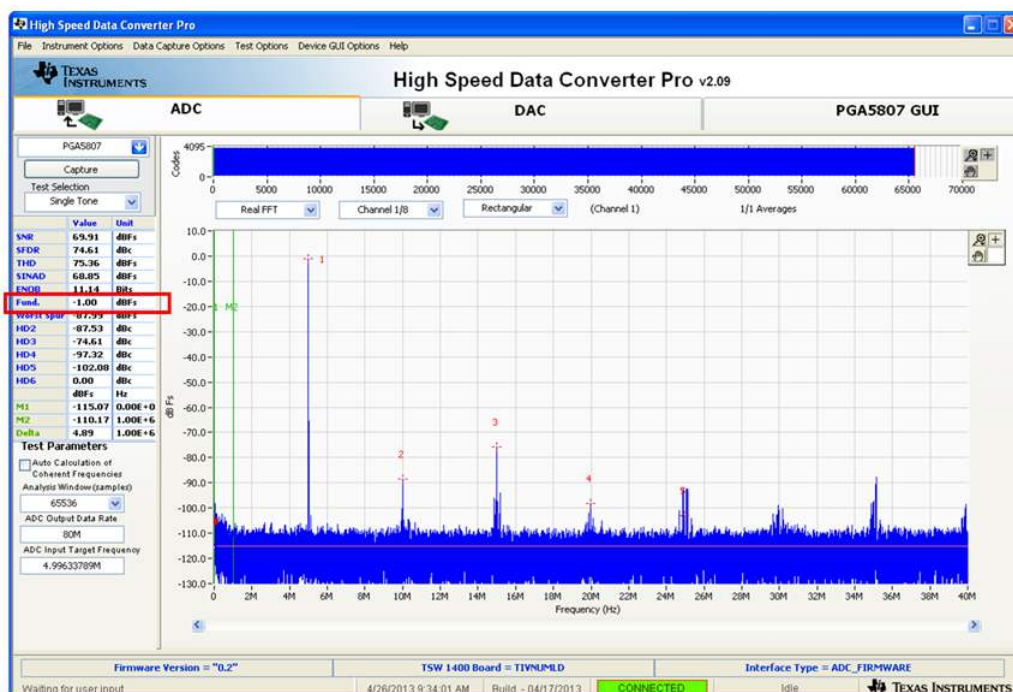

Figure 42. ADS5296A Only Sinusoidal Capture 1
- The plot will update as shown in Figure 42. Take note of the *Fund.* value in the left panel highlighted in RED in Figure 42. This value is dependent on the signal level set on the signal generator feeding the input signal to J36. It also depends on cable loss and filter insertion loss which can vary among parts. If needed, reset the signal amplitude (level) until the *Fund.* value is approximately -1.0 dBFS, as this is the condition for which the datasheet specifications are set. The input level was iteratively adjusted to achieve -1.0 dBFS as seen in Figure 42.